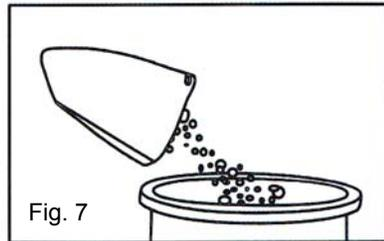

Fig. 7
3. Empty the dust from the dust cup container. (See fig. 7)